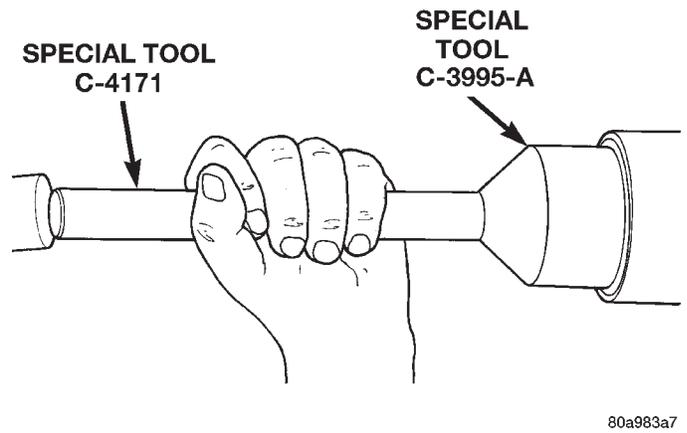

Fig. 10 Install Rear Retainer Seal
- (4) Using Installer C-3995-A, install seal in rear retainer (Fig. 10).
- (5) Install propeller shaft.
- (6) Verify proper fluid level.
- (7) Lower vehicle.